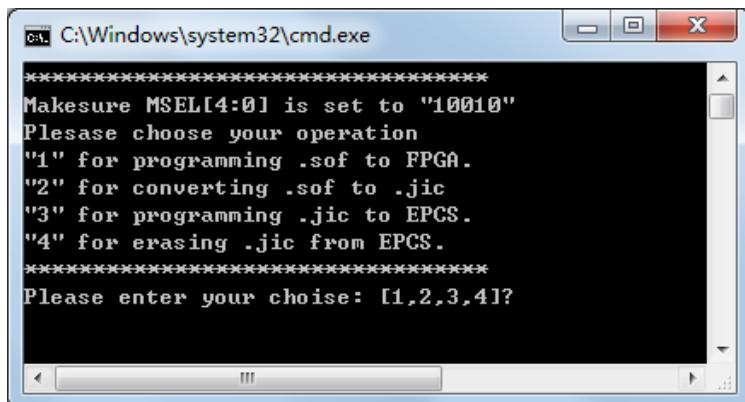

Figure 5-1 Command line of the batch file to program the FPGA and EPCS device
- For the ease of execution, a demo_batch folder is provided in the project. It is able to not only load the bit stream into the FPGA in command line, but also program or erase .jic file to the EPCS by executing the “**test.bat**” file shown in Figure 5-1